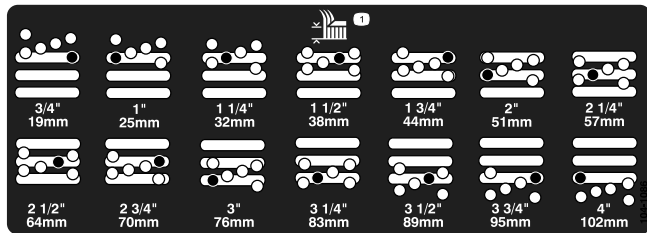

Figure 9
5. Move the chamber to the desired height-of-cut and install a spacer into the designated height-of-cut hole and slot (Figure 9).